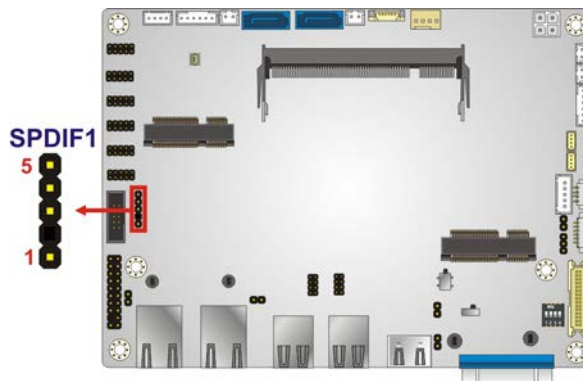

Figure 3-25: SPDIF Connector Location
- CN Location:** See Figure 3-25